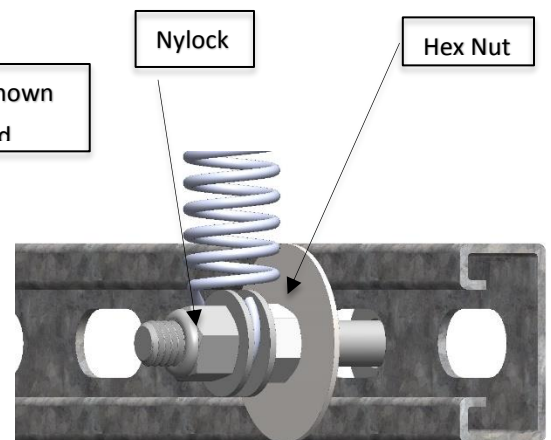

Figure 16: Lower Tape Installation
- Affix an 18" length of Unistrut to the bottom of guide rail as shown in figure 16.
- Position the Lower Tape Mount Assembly 9.36" from the surface of the guide rail to the center of the 3/8" bolt as shown in figure 16.
- Connect the spring to the Tape Interlock bracket using the Split Ring as shown below in figure 16.